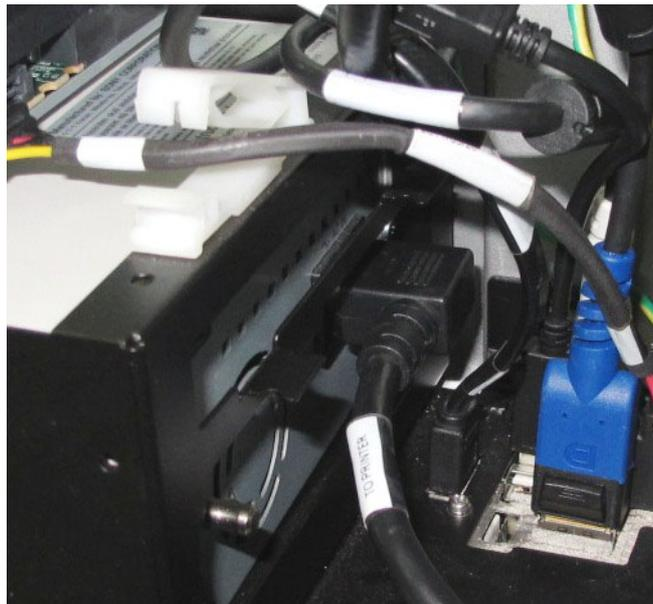

Figure 8-129 Peripheral Power Output Cable (Printer-to-AC Box)
2.) Disconnect the Peripheral Power Output Cable (Printer-to-AC Box) from the rear of the printer as shown in Figure 8-129.